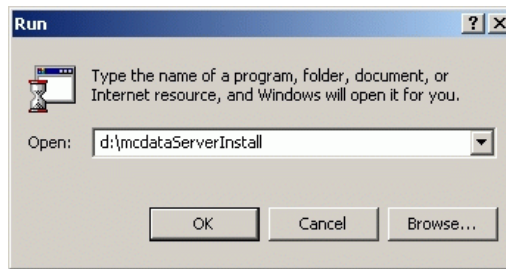

Figure 4-87 Run Dialog Box
5. At the management server's Windows 2000 desktop, click *Start* at the left side of the task bar, then select the *Run* option. The *Run* dialog box displays (Figure 4-87).